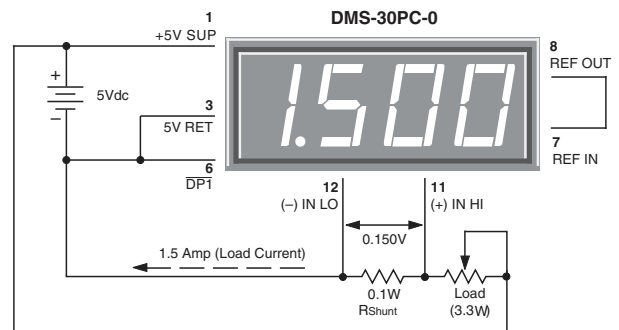

Figure 9. Basic DC Ammeter Circuit
7. Digital Ammeter: Digital ammeters are finding ever-increasing usage because analog-style ammeters (moving-vane types) now cost roughly the same as their digital counterparts. Additionally, analog ammeters are not nearly as rugged as modern digital panel voltmeters. Figure 9 illustrates a typical ammeter application. The circuit uses a ±200mV input meter — the preferred range for most ammeters — to measure the voltage developed across a 0.1Ω current shunt. The circuit shown represents a basic ammeter connection diagram. A detailed application note describing digital dc ammeters is included in Murata Power Solutions' new Digital Panel Meter Databook.